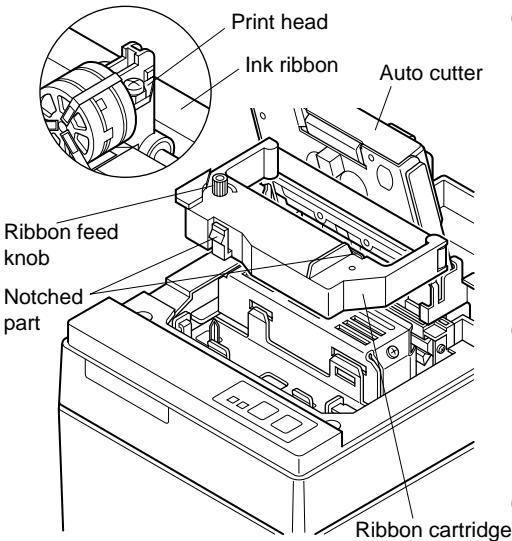

Fig. 4-10 Loading the ribbon cartridge
④ Place the ribbon cartridge in the direction shown in Fig. 4-10 and press it down to load it. If loading of the ribbon cartridge is not satisfactory, press down the cartridge while rotating the ribbon feed knob in the direction of the arrow.
⑤ Turn the ribbon feed knob of the ribbon cartridge in the direction of the arrow to remove slack in the ribbon.
⑥ Close the Auto Cutter.
⑦ Mount the cover by reversing the procedure outlined in step ② above.